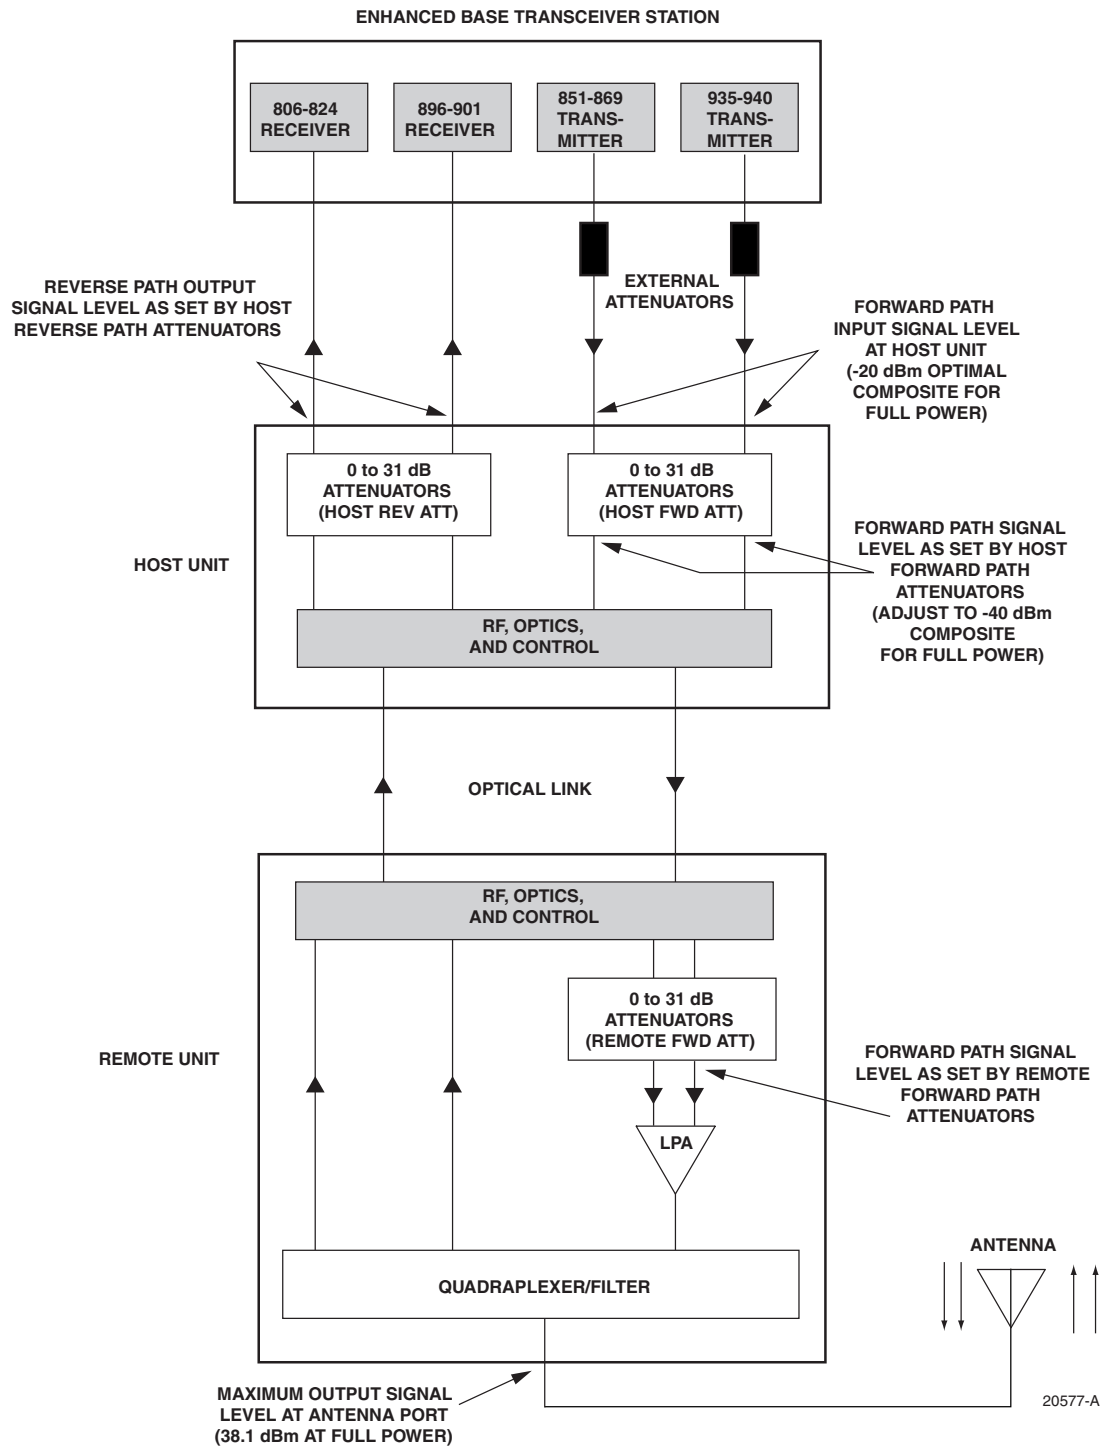
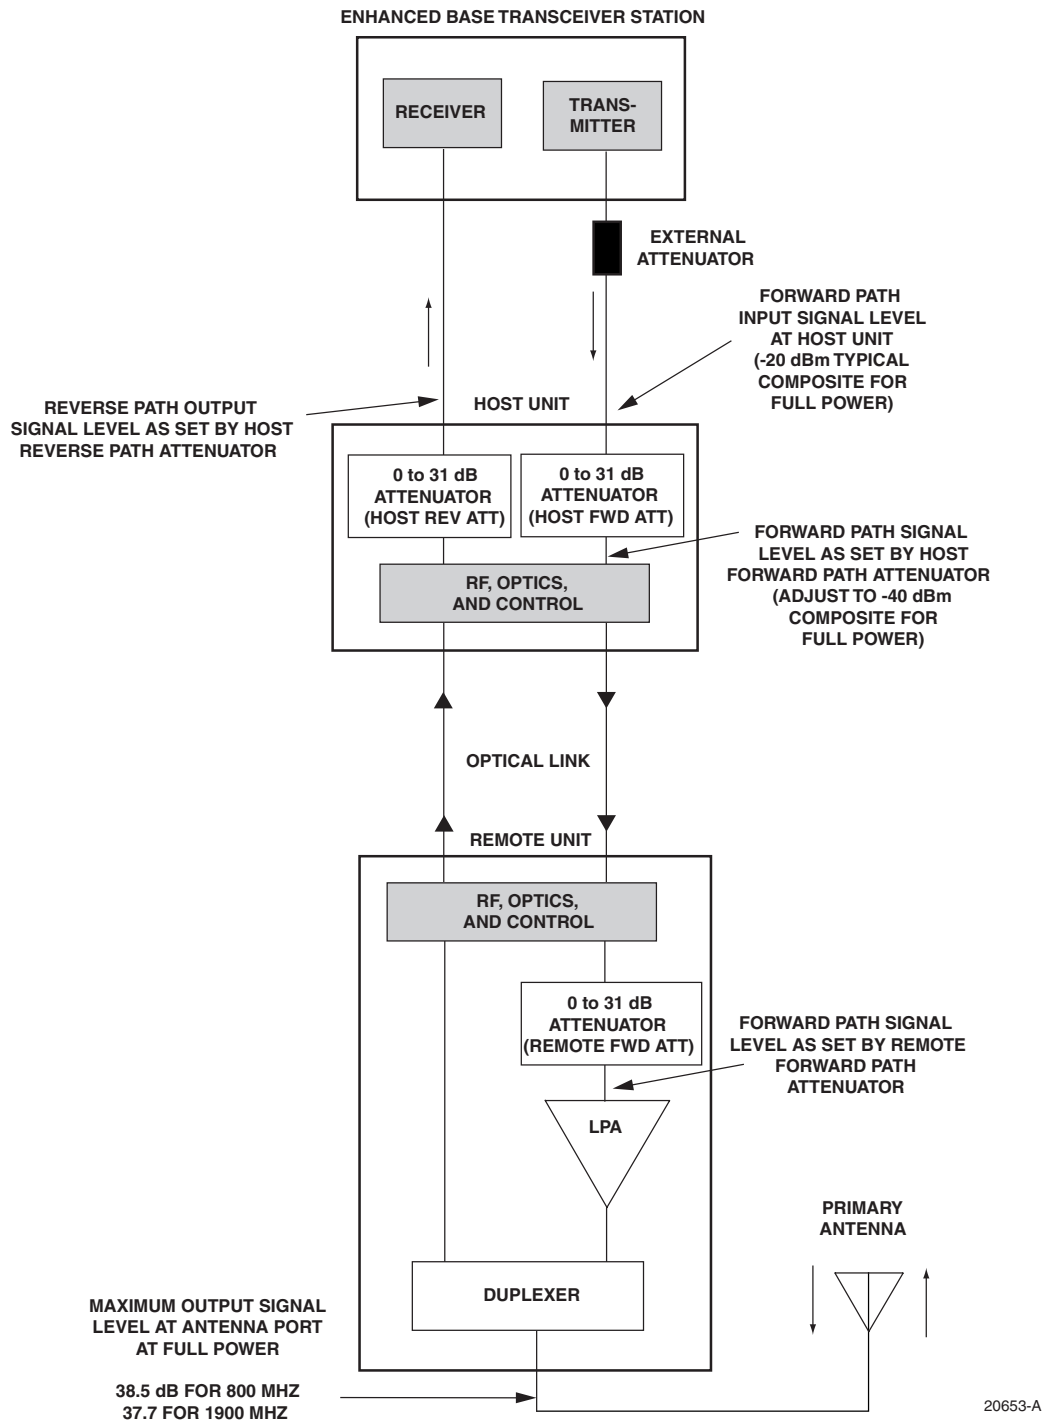

Figure 3-3. Signal Levels, Test Points, and Adjustments for 800/900 MHz SMR Systems
Figure 3-4. Signal Levels, Test Points, and Adjustments for 800 MHz and 1900 MHz Systems
1. Connect a spectrum analyzer or power meter to the forward path output port at the EBTS. The required signal levels and test points for **800/900 MHz SMR** systems are shown in Figure 3-3. The required signal levels and test points for **800 MHz** and **1900 MHz** systems are shown in Figure 3-4. Note that 800/900 MHz SMR Host Units have two forward path ports.